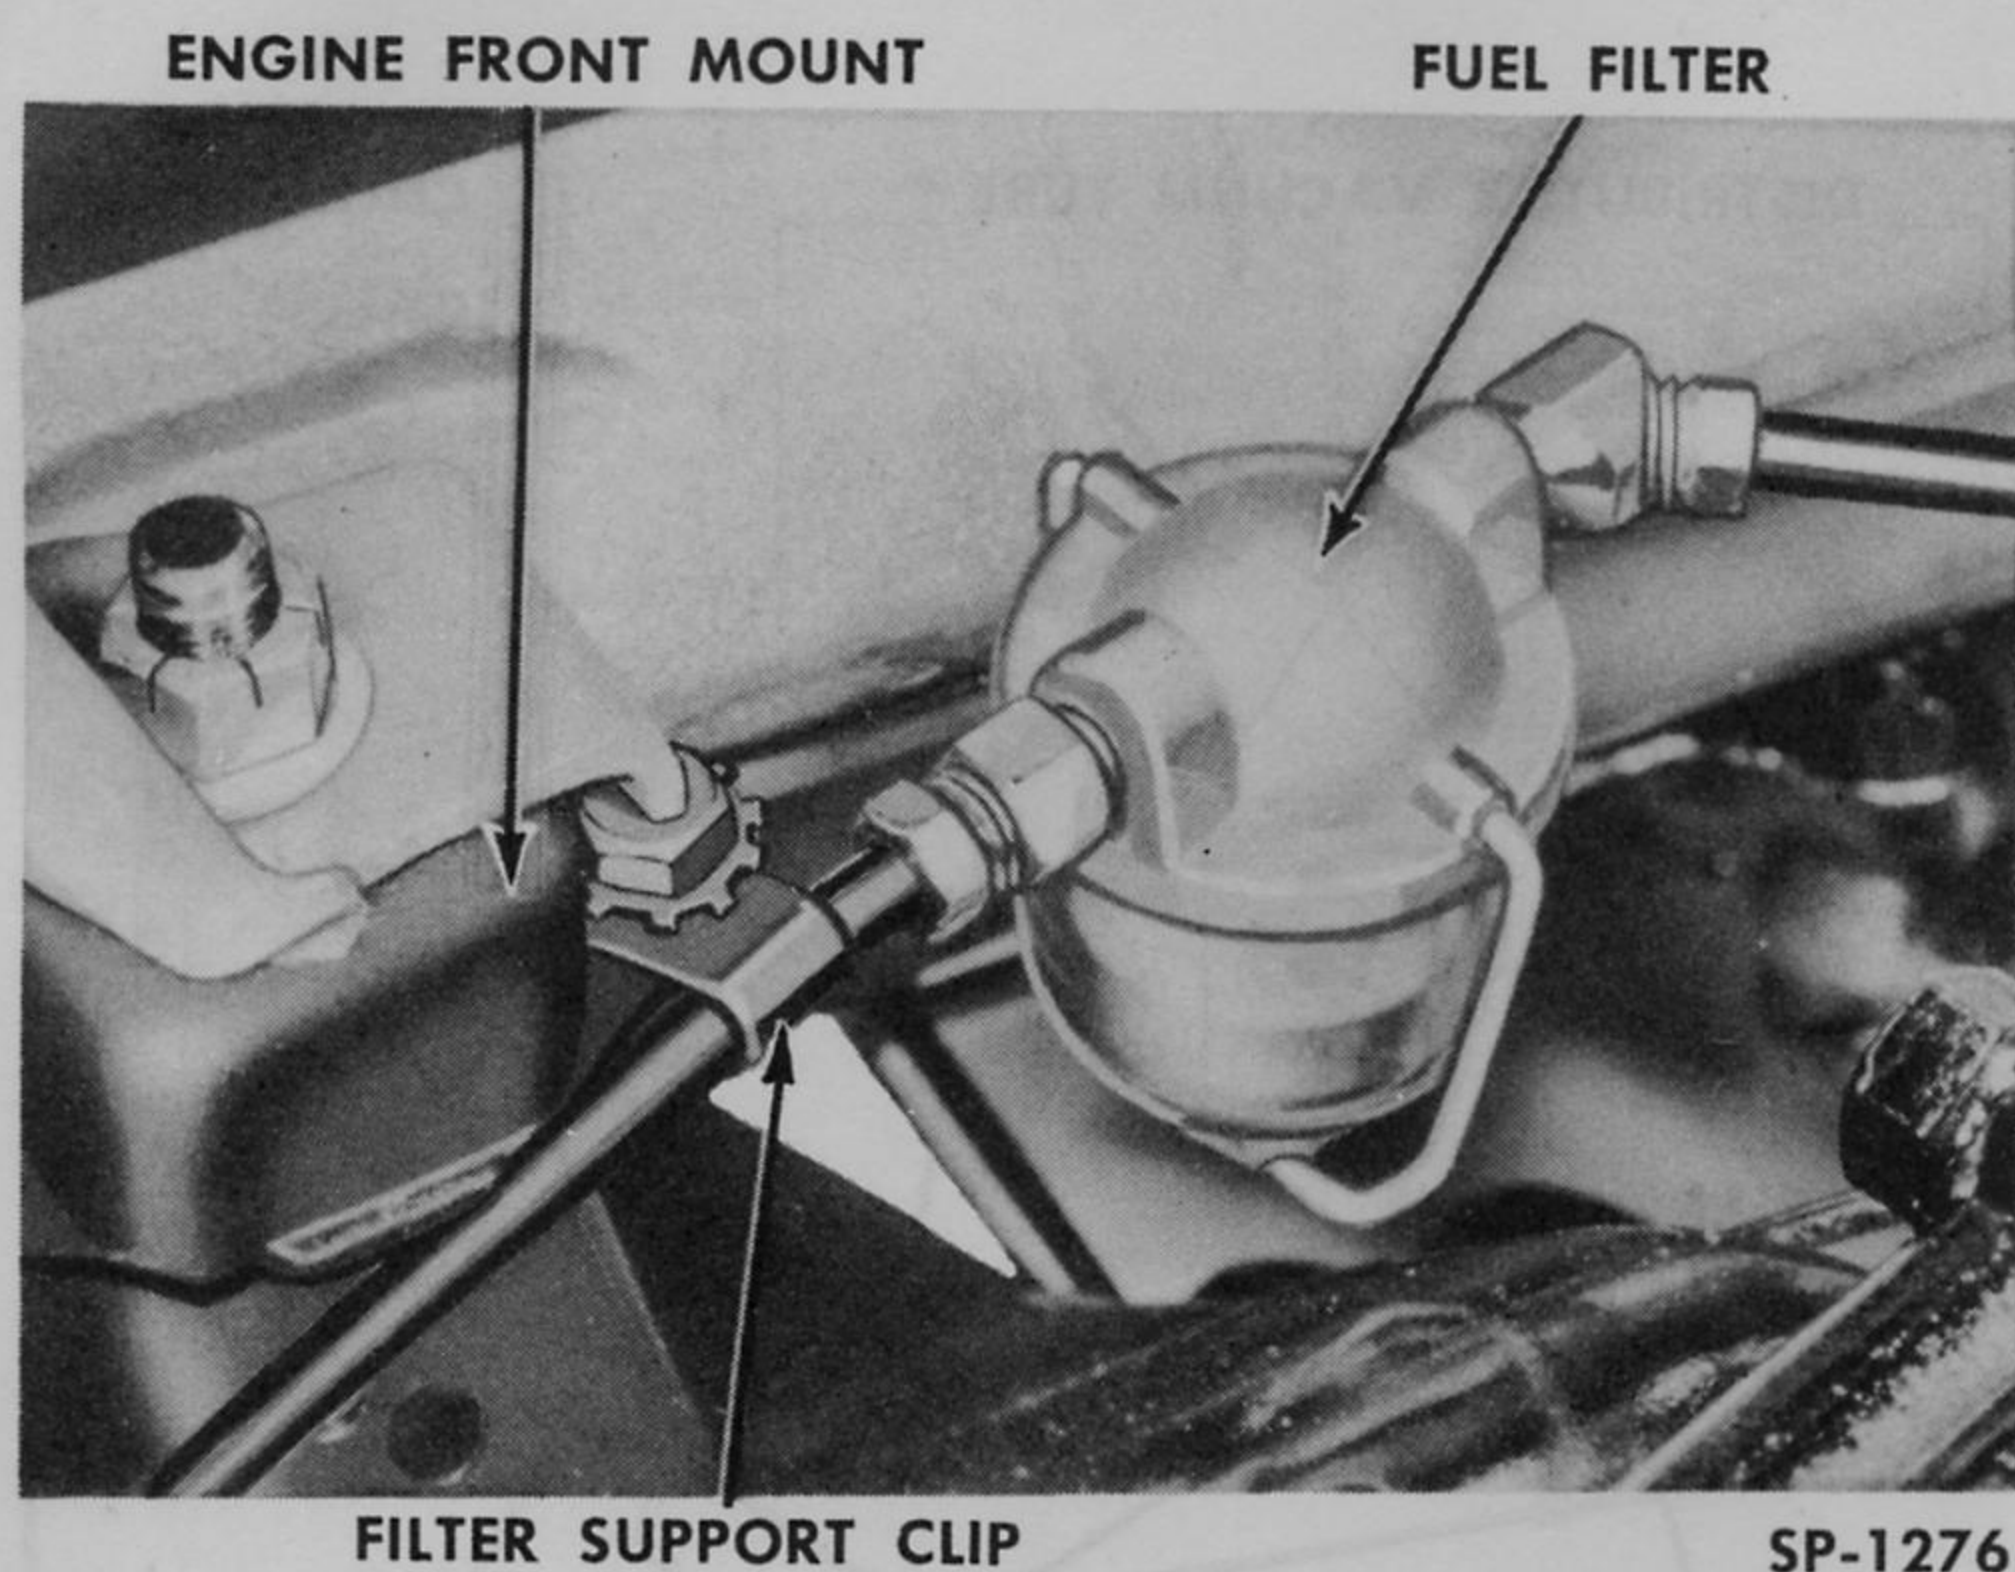

Fig. 108—Kaiser Fuel Filter
5. Fuel Filter Element Replacement (Fig. 108).